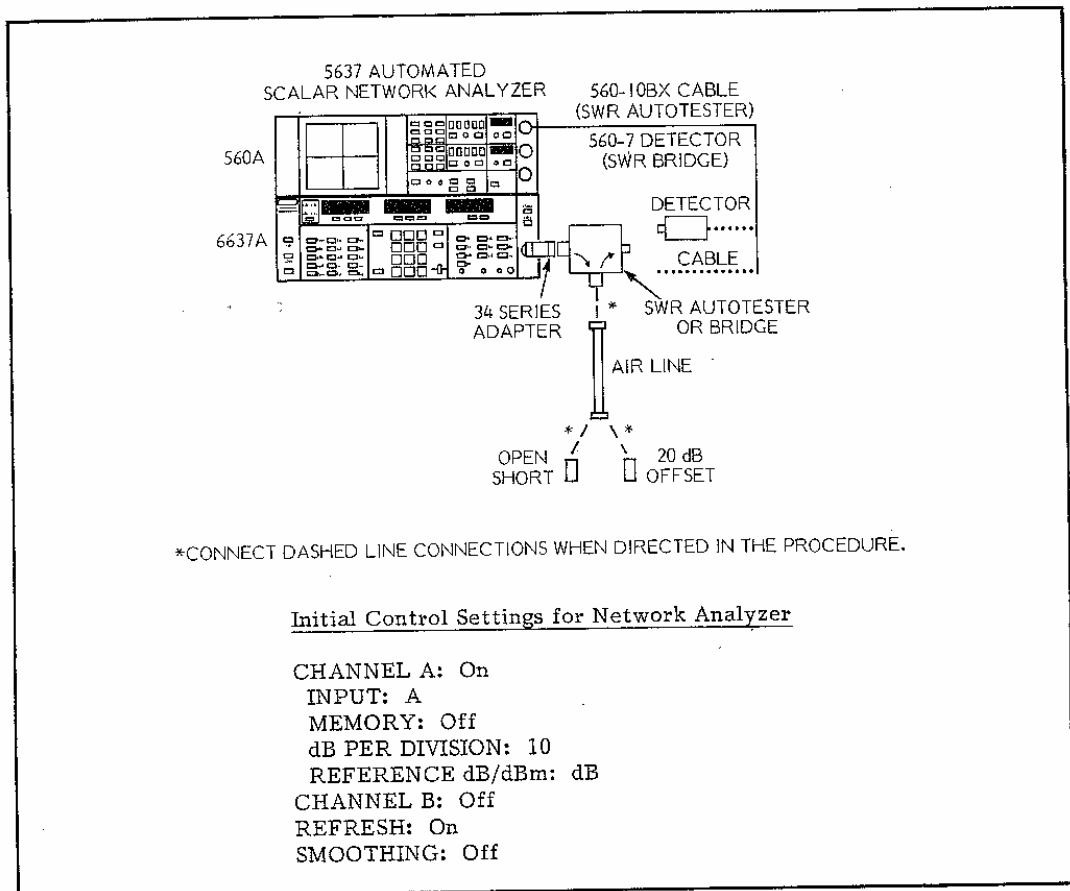

Figure 3-1. Test Setup for Measuring Directivity Above 2 GHz
- a. Press the POWER pushbutton on the 560A and 6637A. Set the 560A controls as shown in Figure 3-1.
1. Connect the test equipment as shown in Figure 3-1.
6. Connect the beadless end of the air line to the test port, as shown in Figure 3-1. If, after tightening the air line connector, the 560A trace has spikes like those shown in Waveform A, below, the center conductor is not making a good connection. Disconnect the air line, remate the center conductor, and retighten the connector. Waveform B, below, indicates a good connection.